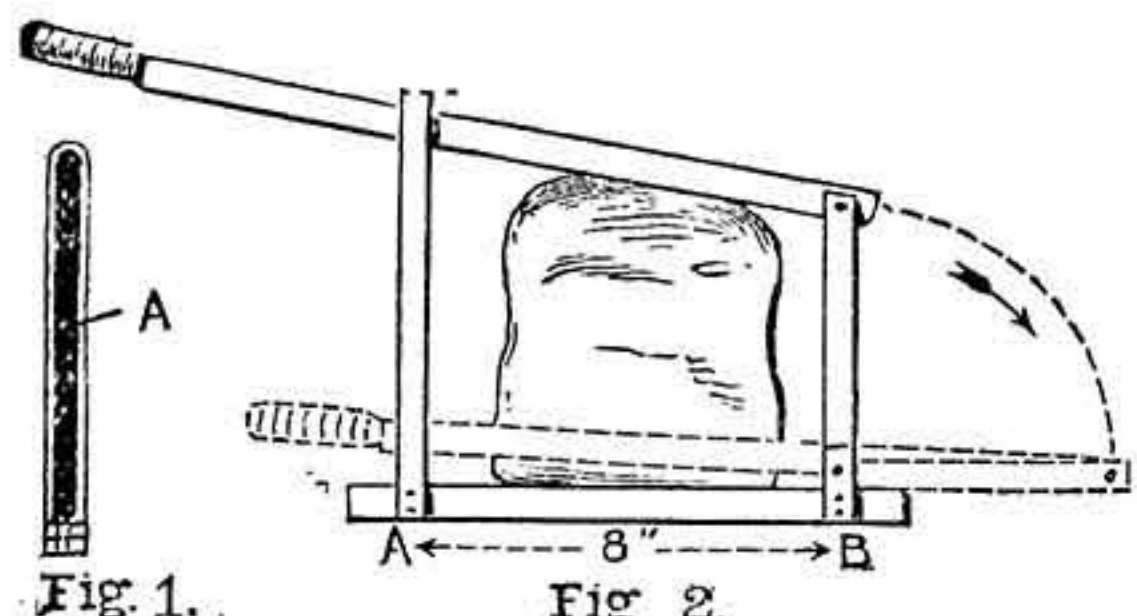

Fig. 1.—Guide for Knife. Fig. 2.—Machine complete.
**Bread-cutter.**—C. P. WEBB writes, in reply to JEAN (see No. 127, page 366):—"A simple bread-cutting machine may be constructed as follows: Take a piece of beech, or other hard wood, 18 in. by 12 in. by 1 in., planed smooth, and nicely squared; then take a strip of iron, ¼ in. thick, ¾ in. wide, 19 in. long; heat one end and bend up 1 in. close, then bend up the whole in half, so that you leave a space between the two sides of ¼ in., as shown at A (Fig. 1); drill two holes, countersunk one side as shown, on one of the shorter sides of the board at 1½ in. from the side; cut out a piece ¾ in. wide by ¾ in. deep; screw this piece of ironwork on, as at A (Fig. 2). Now cut two pieces of the same iron—one 2 in. long, the other 7 in. long; drill a hole at ½ in. from each end of the longer piece, and a hole ½ in. from one end of the shorter piece, and two holes—countersunk—at the other end; cut a small piece, ¾ in. wide and ½ in. deep, out of the side of